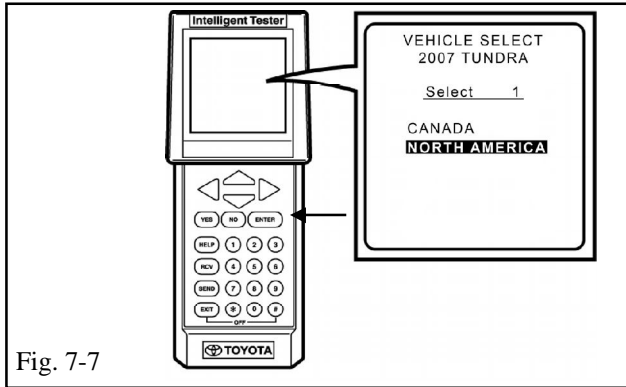

Fig. 7-7
- (i) Select "NORTH AMERICA" with the scroll key, then press "ENTER." (Fig. 7-7)